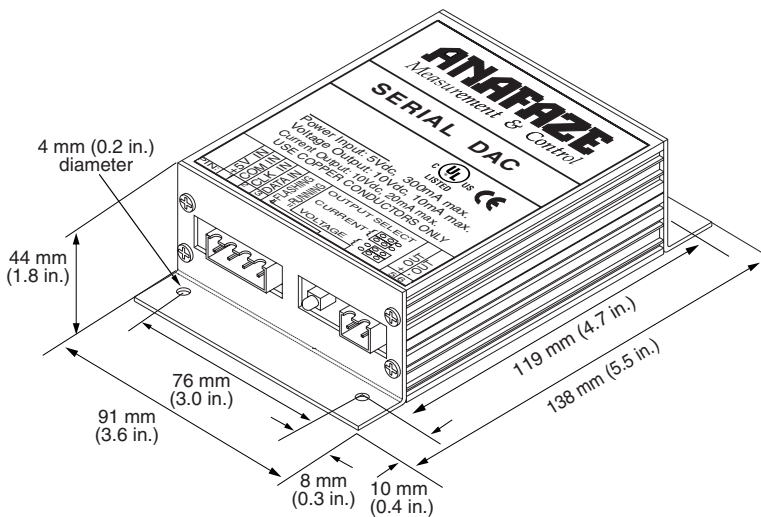

Figure 1. Serial DAC Dimensions
2. Drill four holes for screw mounting. *See Figure 1 on page 2* for mounting hole dimensions and placement.